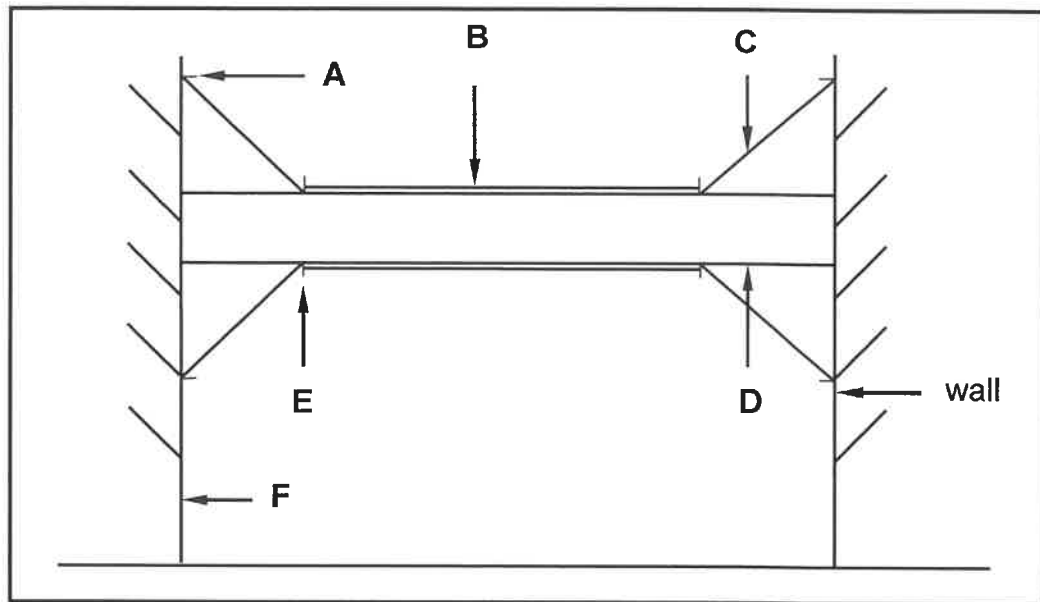

FIGURE 5.6
- Use the assessment criteria on the ANSWER SHEET as a guide. (8)
- 5.6 FIGURE 5.6 shows a line diagram of a double-flying shore between two walls. Label **A** to **F**.